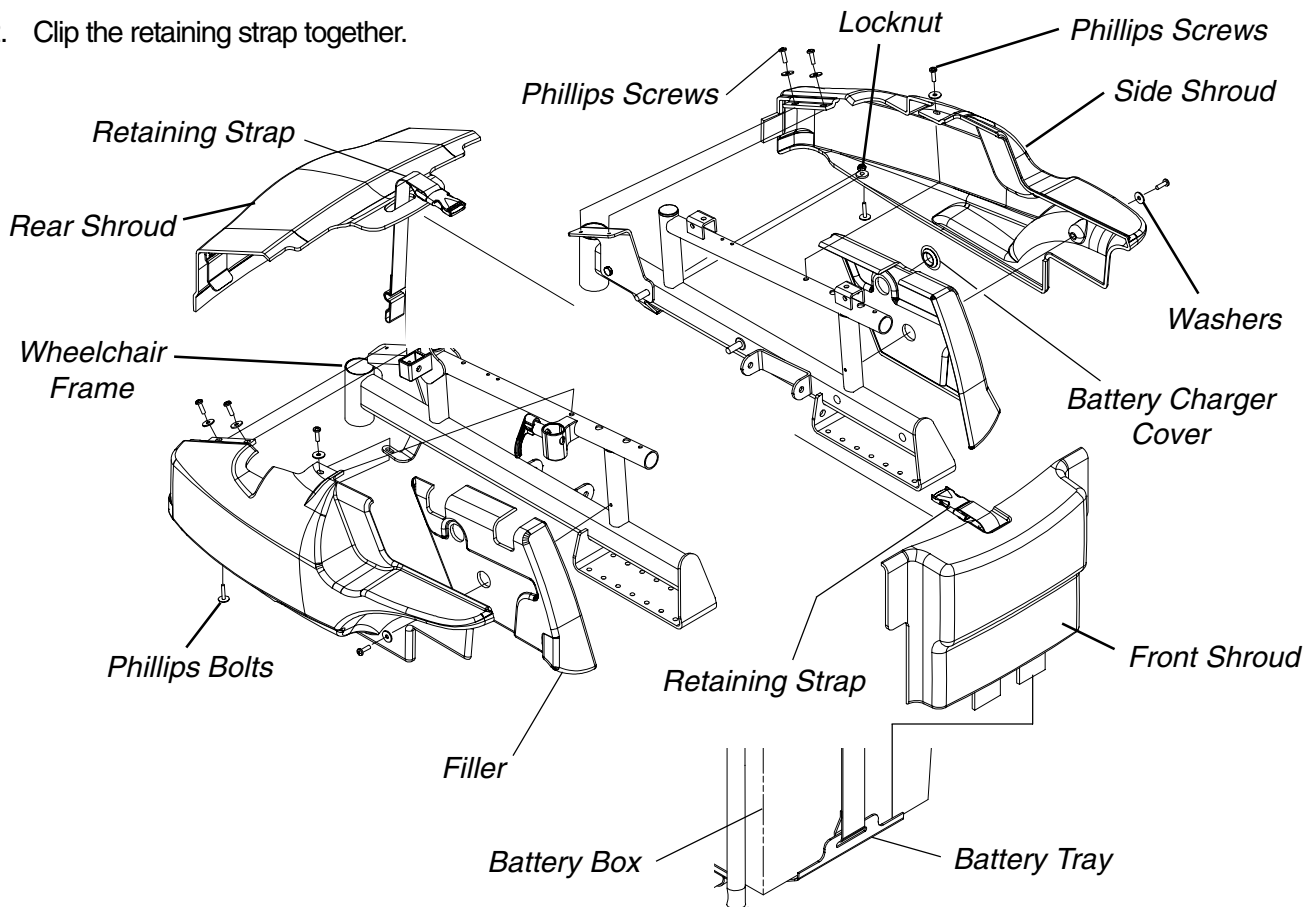

FIGURE 8 - REMOVING/INSTALLING SHROUDS - FWD WHEELCHAIRS
REMOVING/INSTALLING SHROUDS (FIGURE 8)
1. Feed the retaining strap through the front shroud as shown in **FIGURE 8**.
3. Press down on the rear shroud until the two (2) clips secure the rear shroud to the two (2) side shrouds.
3. Perform one (1) of the following:
4. Remove the phillips screws, bolts, washers and lock-nuts that secure side shroud and filler to the wheelchair frame. Refer to **FIGURE 8** for phillips screw and washer locations.
3. Install the phillips screws, bolts, washers and locknuts that secure the side shroud and filler to the wheelchair frame and tighten securely. **DO NOT OVERTIGHTEN.** Refer to **FIGURE 8** for phillips screw, bolt, washer and locknut locations.
5. Perform one (1) of the following: